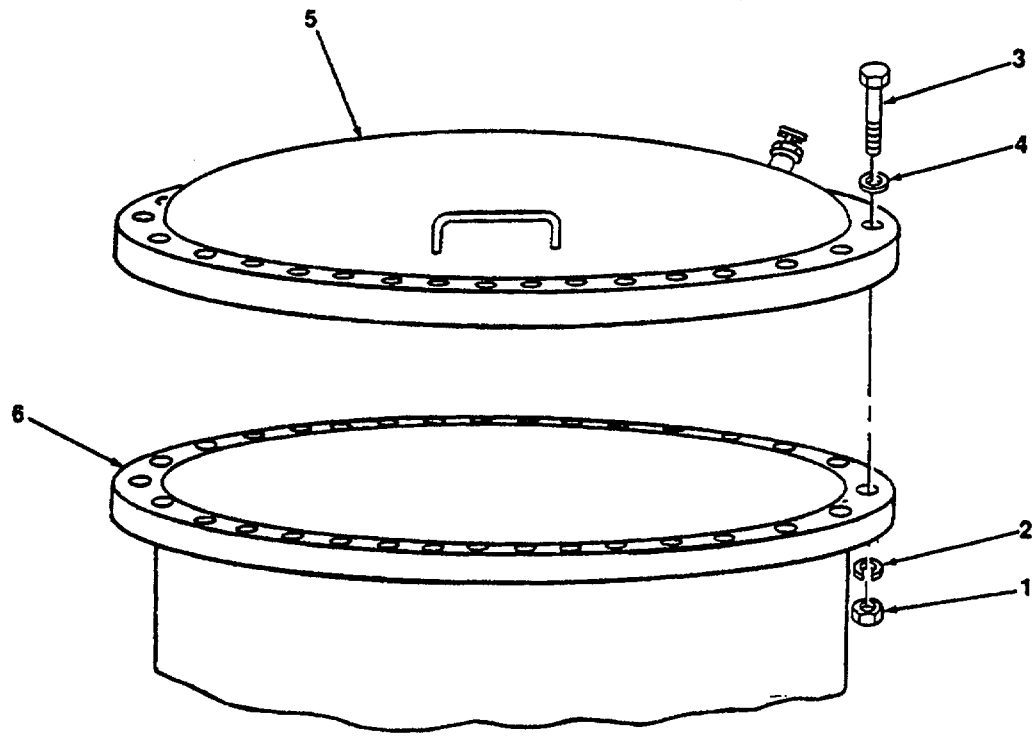
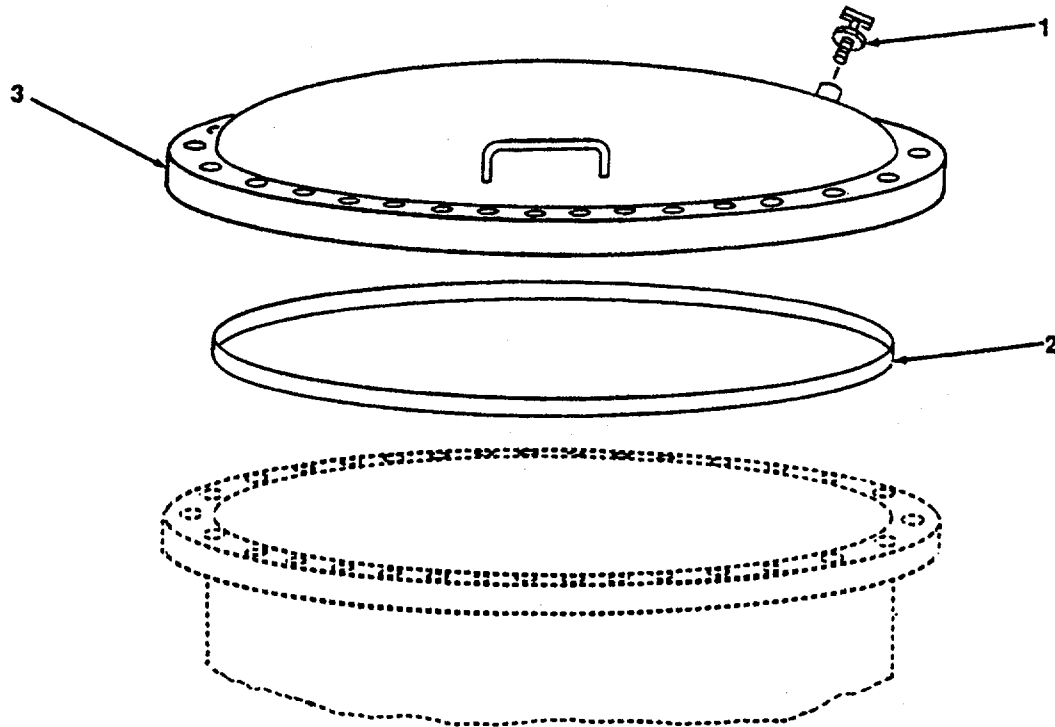

Figure 4-3. Cover Assembly, Replace
Figure 4-4. Cover Assembly, Repair.
a. Removal. (figure 4-3)
- (1) Remove 30 nuts (1), lockwashers (2), bolts (3) and washers (4).
- (2) Remove cover (5) from tank (6).
b. Repair. (figure 4-4)
- (1) Unscrew and remove vent pressure valve (1).
- (2) Remove packing (2).
- (3) Inspect all items and replace items that are worn or damaged.
- (4) Coat packing (2) with silicone and install on cover (3).
- (5) Coat threads of vent pressure valve (1) with silicone compound and install on cover (3).
c. Installation. (figure 4-3)